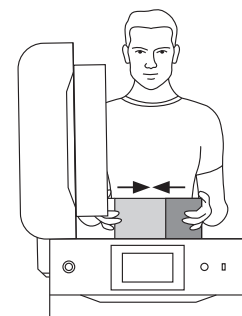

Fig. 3.3 Closing the IO BOX.
9. Close the IO BOX (fig. 3.3).